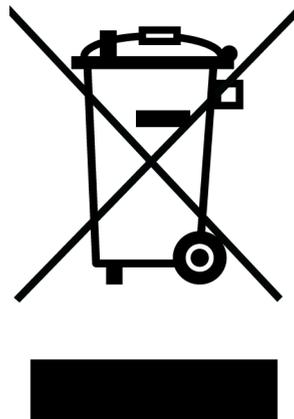

Figure 14 Crossed out 'wheelie bin' symbol
- marked correspondingly with the crossed out 'wheelie bin' logo (see Figure 14)